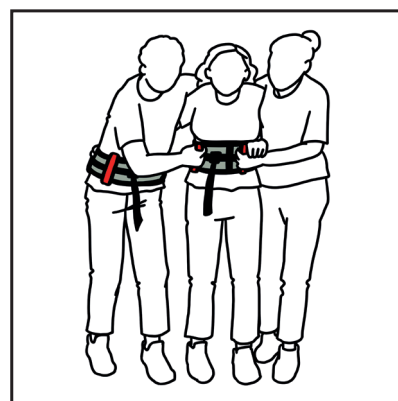

Figure 4
- If the user is standing, the helper(s) should position themselves to the side. The helper takes hold of a handle in on the hip strap a suitable place on the back with one hand and holds the user's hand with the other (Figure 4).